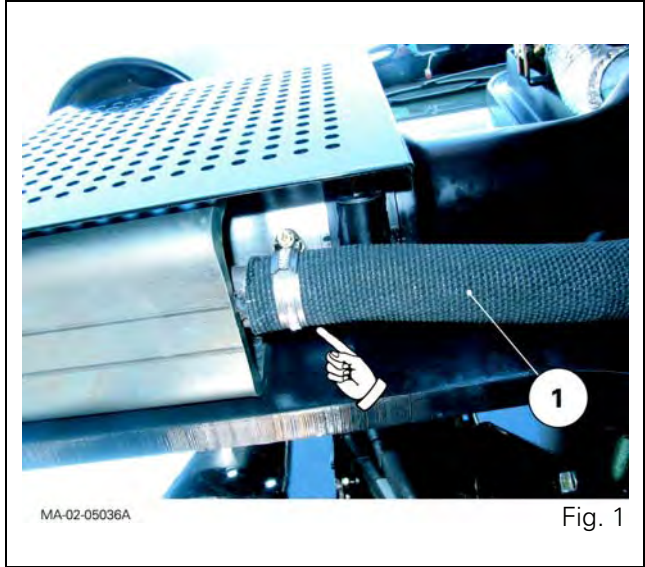
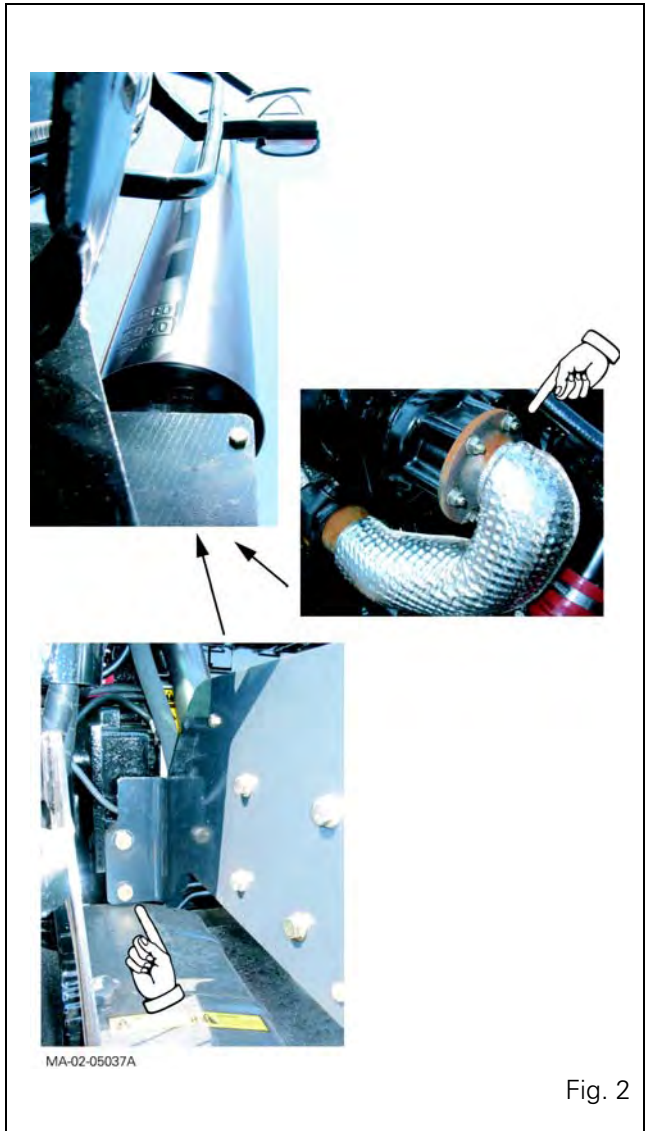

Fig. 1
Fig. 2
8. Disconnect the flexible sleeve (1) (Fig. 1) fitted to the suction port. Remove the vertical exhaust assembly (including support Fig. 2).